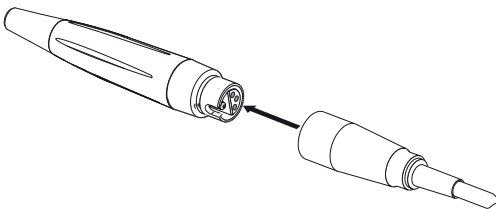

Fig. 4 Handpiece Connection
5. Connect the handpiece carefully by plugging it into the connector cord, aligning the electrical contacts (see Fig. 4 below).